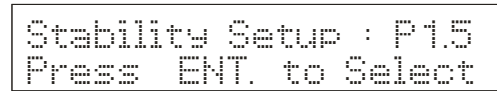

Figure 94
2. Use  $\Delta/MI$  to scroll to program *Stability Setup: P1.5*. See **Figure 94**.